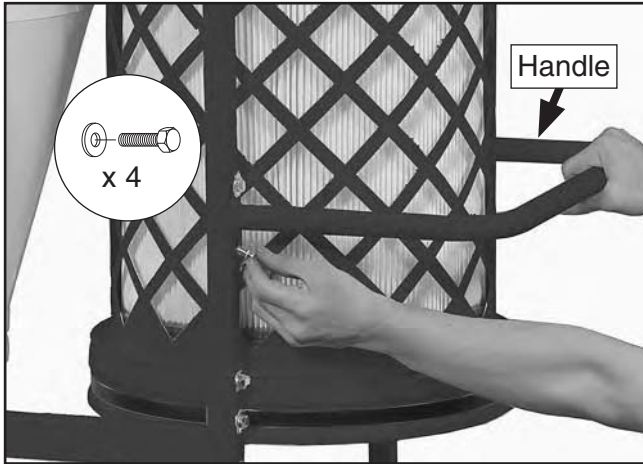

Figure 17. Installing the hand rail.
8. Install the handle with (4) $\frac{5}{16}$ "-18 x $\frac{3}{4}$ " hex bolts and (4) $\frac{5}{16}$ " washers, as shown in **Figure 17**.